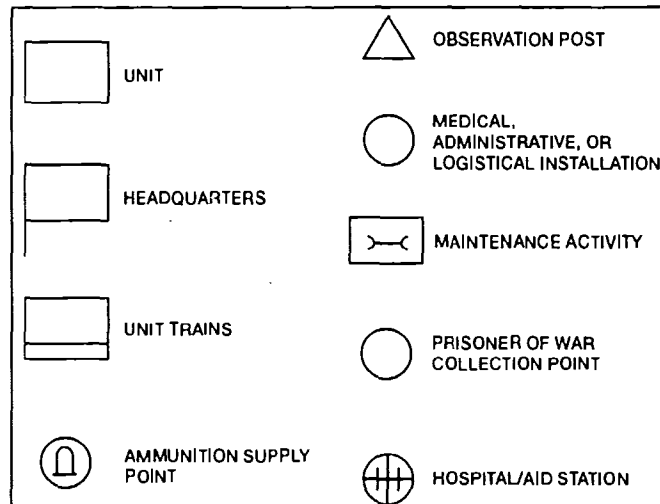

Figure 071-329-1019-2 Basic Symbols
- b. Development of a unit symbol (figure 071-329-1019-3).